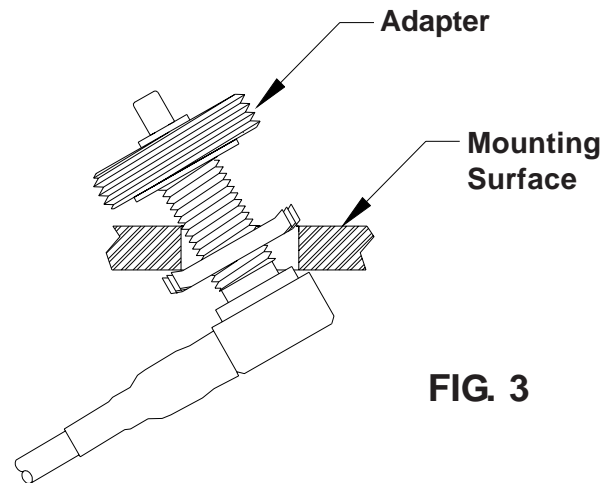
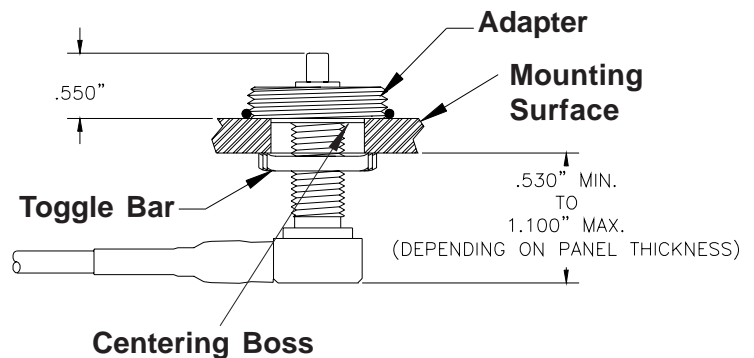

FIG. 3
FIG. 4
5. If the underside of the mounting location is accessible, push the stanchion up through hole and have a helper thread the mount adapter on stanchion. Otherwise thread the mount adapter onto the stanchion a few turns. Holding the mount adapter, angle the stanchion into the hole as shown in Fig. 3. Adjust the toggle bar to achieve .550" dimension (Fig. 4).
6. Align centering boss on the under side of the mount adapter in hole and use spanner wrench to tighten mount adapter securely (Fig. 4). Be sure mount does not rotate. Slide O-Ring over mount adapter (Fig. 4).